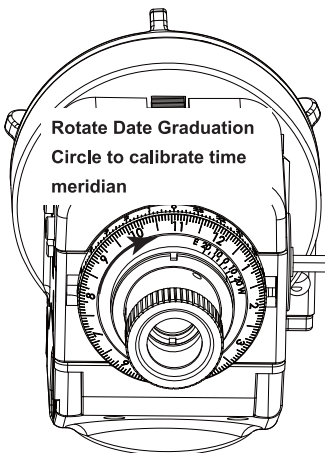

Fig 29
4. **Adjust the Date Graduation Circle** first according to the difference between the standard time meridian of your region and the observing site. For example, if you are in Prince Rupert, Canada which is 130 ° west, then you have to turn the **Date Graduation Circle** to make the **Time Meridian Indicator** point to West 10 (which is 130° -120°)(Fig 29).